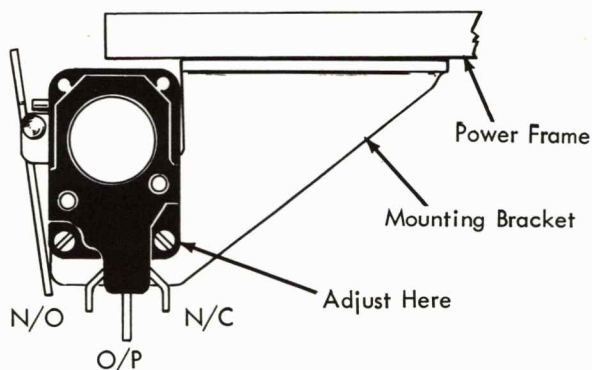

FIGURE 129. Operational Contacts
1. The interposer switch shall be adjusted on its mounting bracket so that the top of the switch is flush with the bottom of the power frame (Fig. 129).